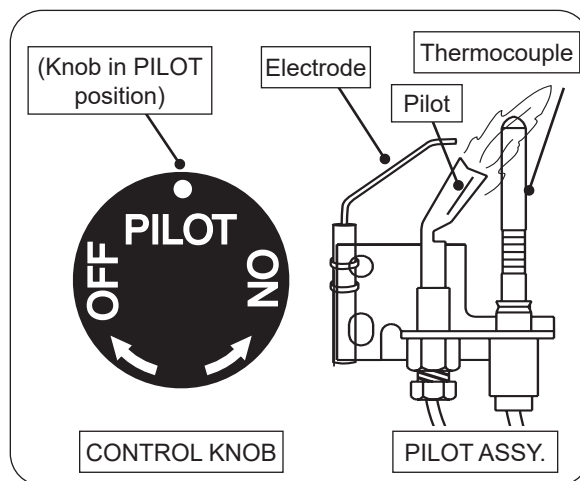

Fig. 29-1 Pilot lighting
3. Locate the pilot assembly on the side or rear of the burner pan (see Fig. 29-1).
4. Turn the control knob counterclockwise to **PILOT**. Push the knob **firmly and fully** in and hold. Push the piezo igniter button several times until the pilot lights. Continue to hold the knob in for about one (1) minute after the pilot is lit. Release the knob and it will pop back out. The pilot will remain lit. See Fig. 29-1. If it goes out, repeat steps 2-4.